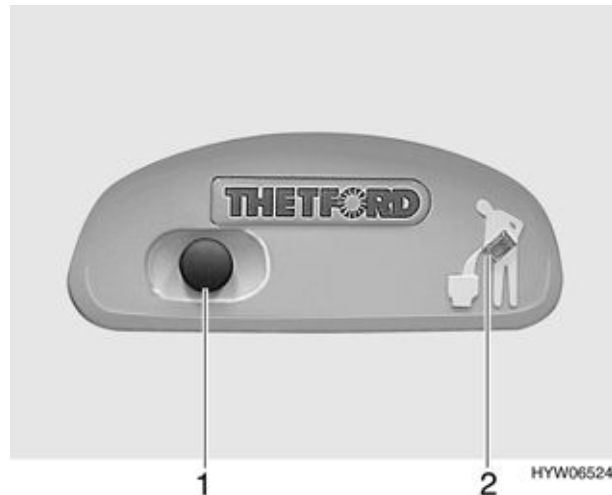

Fig. 165 Flush button/indicator lamp Thetford cassette
- For flushing, press the blue flush button (Fig. 165,1).
The indicator lamp (Fig. 165,2) lights up whenever the Thetford cassette must be emptied.